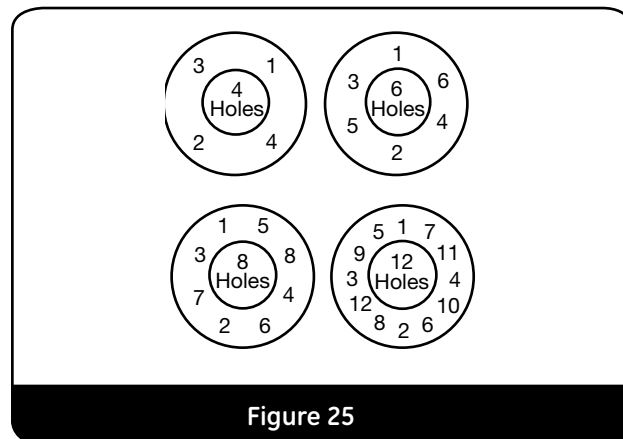

Figure 25
13. Place bonnet gasket in the base prior to installing the bonnet. Uniformly tighten the bonnet stud nuts using the pattern shown in Figure 25.